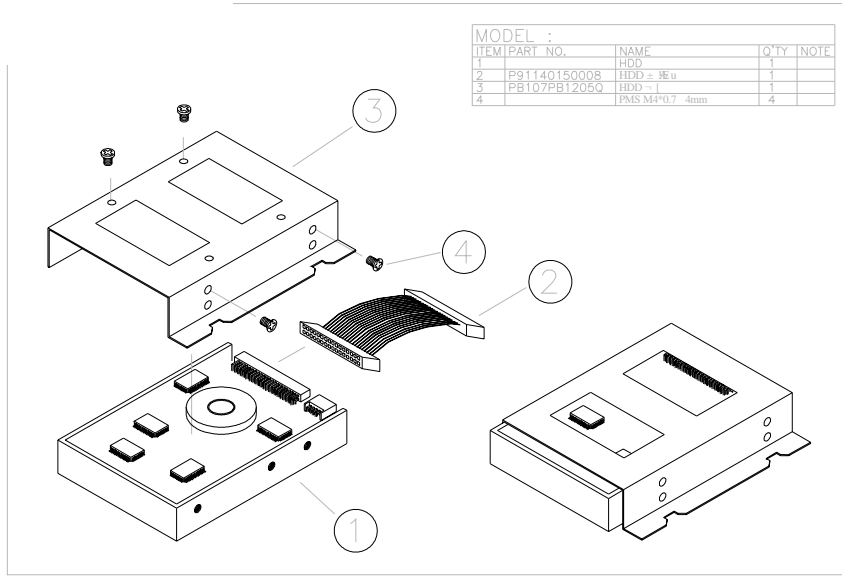

FIGURE 5-9: HDD INSTALLATION
4. Refer to figure 5-9. Remove the existing hard drive from the HDD metal bracket (3).
5. Insert the HDD (1) and fix it to the metal bracket with 4 screws. Be sure to use the *SHORT*, round-head screws provided by the HDD makers.
8. Connect the 40-pin IDE cable (2) to hard disk drive. Make sure the other end of the cable is already connected to the motherboard secondary IDE connector.